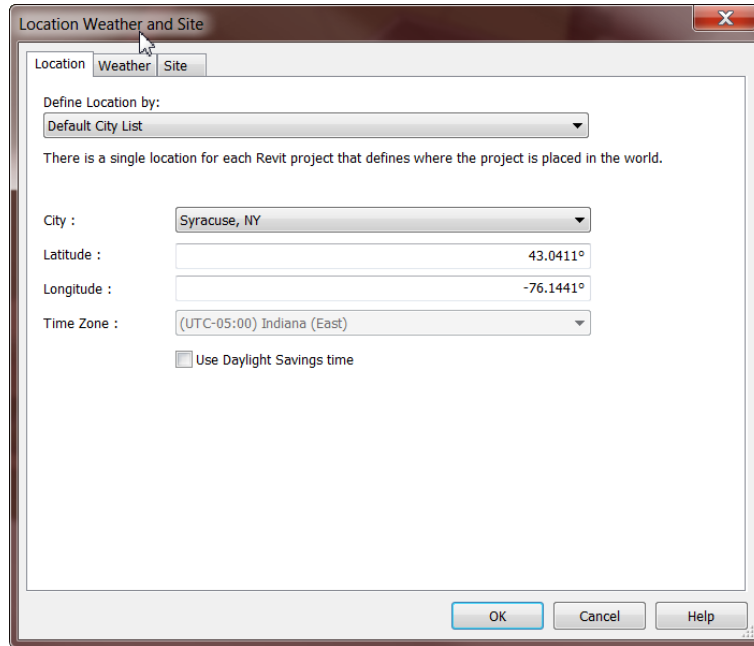

FIGURE 18.25: Setting the site
13. Using the Internet Mapping Service, set the location for Syracuse, NY USA (see Figure 18.25). You can also use your own location.